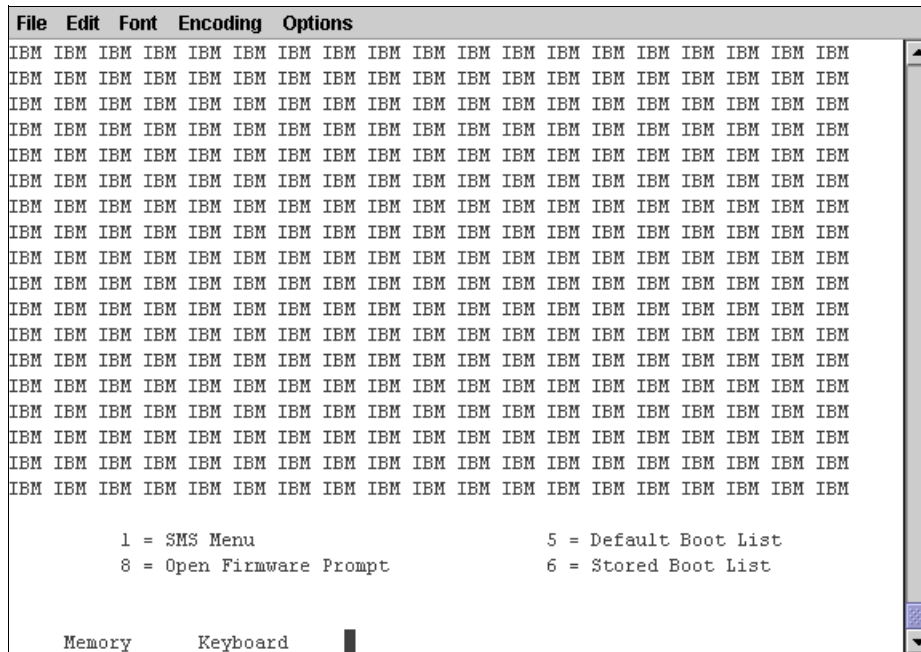

Figure 8-8 SMS menu
2. The SMS menu appears in the IVM terminal (Figure 8-8 on page 343).